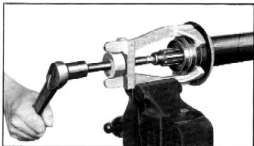

Fig. 34—Removing Propeller Shaft Intermediate Bearing
11. Mount the special puller, J-1619, in a bench vise and fit the jaws of the puller in behind the bearing outer race. Turning the screw of the puller will remove the bearing from the shaft, Fig. 34.